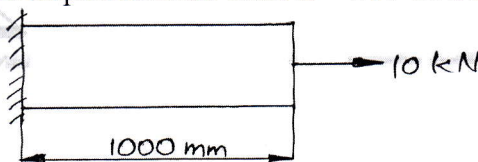

Fig.Q.3(b)
- b. Fig.Q.3(b) shows a one dimensional bar subjected to an axial load. Taking it as a two bar element, determine the nodal displacements. Take $E = 200 \text{ GPa}$ and $A = 10^4 \text{ mm}^2$. (12 Marks)